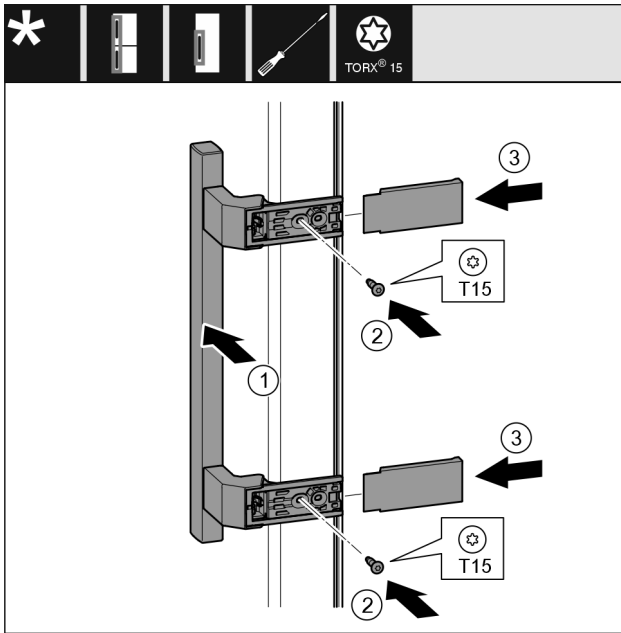

Fig. 40
- ▶ Attach the handle on Fig. 40 (1) the opposite side.
- ▶ Tighten the screws Fig. 40 (2) with the screwdriver.
- ▶ Attach the covers Fig. 40 (3) on the sides and slide them on.